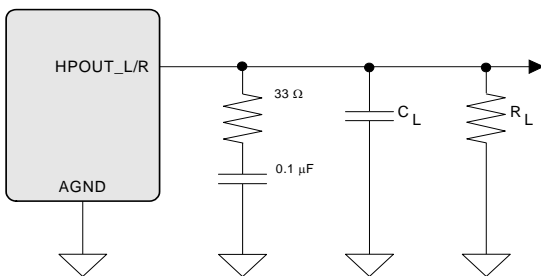
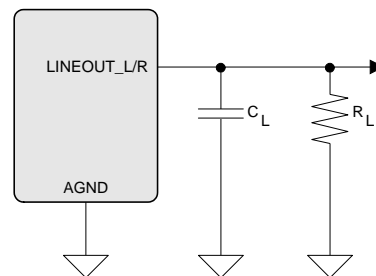

Figure 5. Output Test Load, Headphone Out
Figure 6. Output Test Load, Line Out
(Test conditions (unless otherwise specified): Input test signal is a full-scale 997 Hz sine wave; $V_D = 1.8\text{ V}$; $V_{L_HD} = V_{L_IF} = 3.3\text{ V}$; $T_A = -40\text{ to }+85^\circ\text{C}$; Measurement bandwidth is 10 Hz to 20 kHz; test load $R_L = 10\text{ k}\Omega$, $C_L = 10\text{ pF}$ for the line output and test load $R_L = 16\ \Omega$, $C_L = 10\text{ pF}$ for the headphone output (see Figure 5); DAC Gain = 0 dB).
8. See Figure 5 and Figure 6. R_L and C_L reflect the recommended minimum resistance and maximum capacitance required for the internal op-amp's stability and signal integrity.